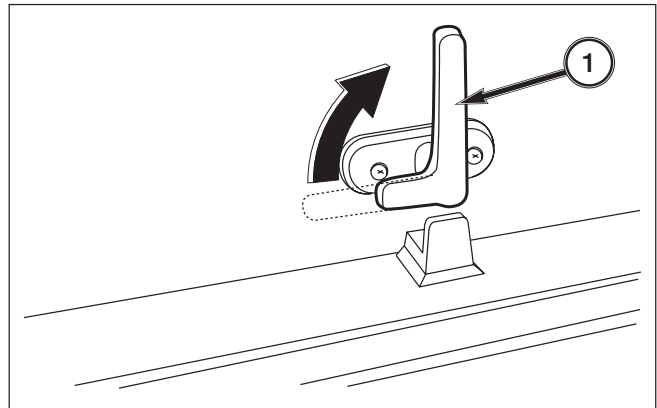

FIG. 5-98
FIG. 5-98: Grasp the handle(1) and turn 90 degrees clockwise to unlock the window. To open, push the rear window out slightly. The window will open and is held in place by the damper.